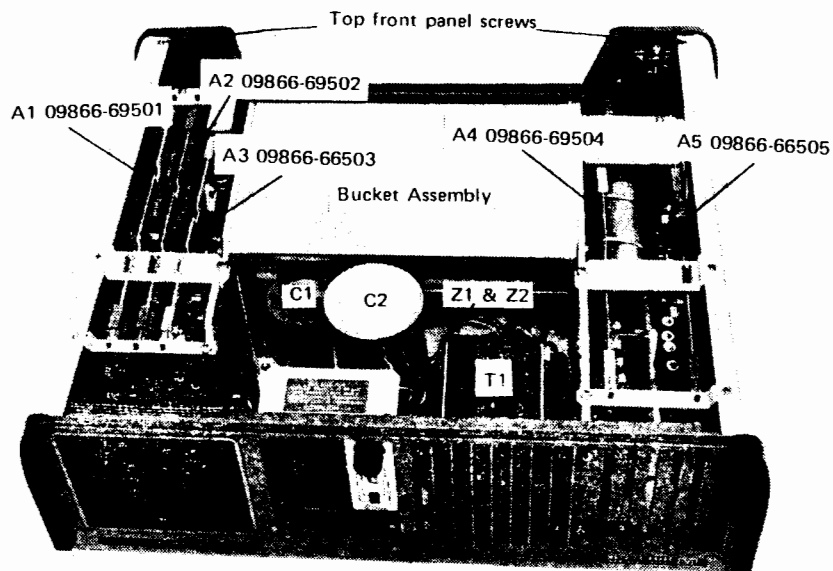

Figure 4-2. The Upper 9866A Assemblies
- B. Loosen the two screws in the top-front and bottom-front of the instrument which attach the front panel to the chassis (see figures 4-2 and 4-4), and pull the front panel out and to the side of the instrument. This provides access to the printhead assembly.